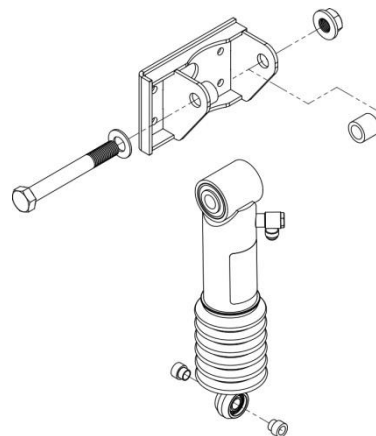

Figure 24. Strut Mount Spacer Orientation
2. Loosely attach the Strut Assembly and spacer to the Driver Side Upper Strut Mount using the 1"-8 x 8.00" Hex Bolt, 1" Hardened Flat Washer, and 1"-8 Locking Flange Nut. See Figure 24.